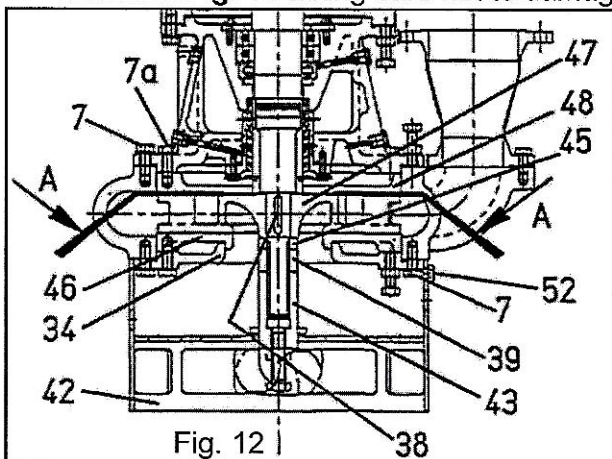
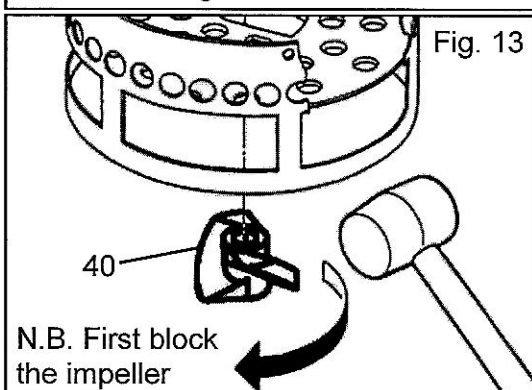
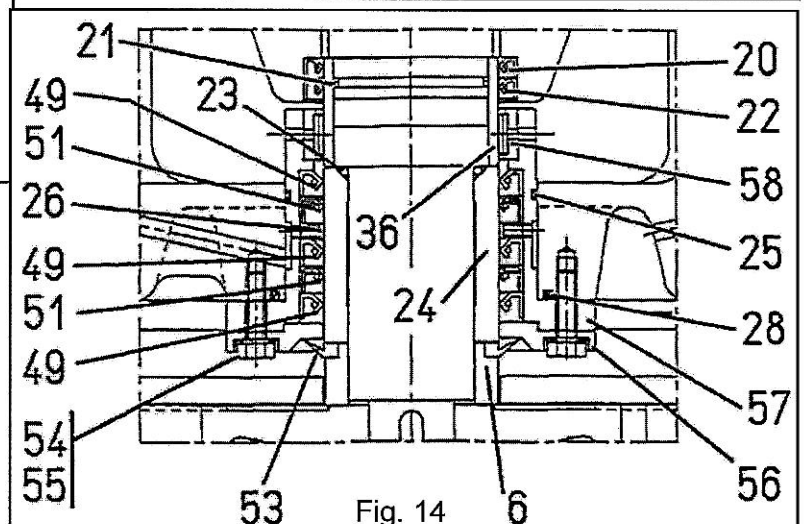

Fig. 12
Fig. 13
Fig. 14
- Remove the filter **42** (Fig. 12) by unscrewing the screws **52**.
- Unscrew the cutter **40** by hitting it smartly in an anticlockwise direction as shown in Fig. 13; make sure the impeller **47** (Fig. 12) is blocked with an iron rod.
- Extract the flange on the suction side **34** (Fig. 12) after having removed the screws **7**. With the flange pos. **34** the lower wear plate **46** also will come down.
- Remove the casing **37** (Fig. 12) after having removed the screws **7**.
- Extract the impeller **47** using two levers "A" (Fig. 12). If it sticks use an extractor, taking care not to damage the threaded part of the motor shaft.
- Remove the key **38** (Fig. 12) and immediately after the spacer **6** (Fig. 14). To remove the upper wear plate **48** unscrew the screws **7a**.
- Change the seals **20** (n° 1) and **22** (n° 1) with their wear sleeve **36** (n° 1) and the o-ring **21** (n° 1). Then change the seals **53** (n° 1), **49** (n° 3) and **51** (n° 2), the two lower shaft sleeve **24** and **6**, the three o-rings "OR" **23**, **25** and **28** as shown in Fig. 14 taking care not to damage any spare.